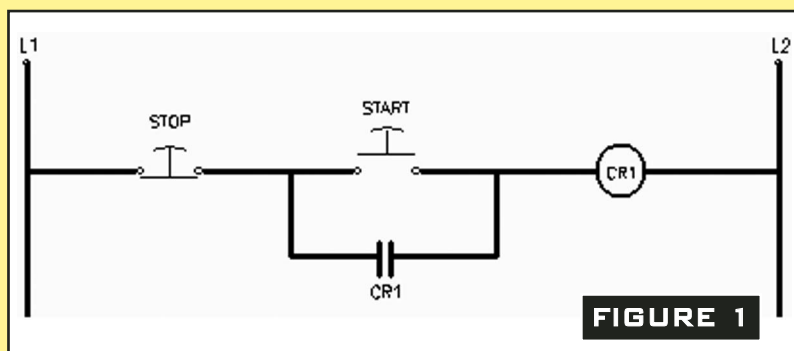

FIGURE 1
The first circuit that will be demonstrated on the PLC is a typical start/stop motor control circuit that is commonly found controlling industrial motors (Figure 1). In a typical hardwired start/stop circuit, the L1 line would be connected to the “hot” line of 120 VAC. The L2 line would be connected to the neutral or ground wire. The stop button is a normally-closed (NC) momentary push-button. The start button is a normally open (NO) momentary push-button. CR1 is the motor contactor winding.